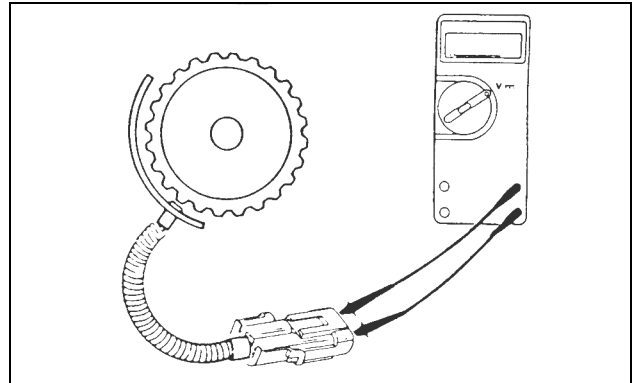

FIG. 1.1.41
**Correction:** Disconnect Weather pack connector from Jacobs control module. Measure the resistance between the two wires from the tach sender (Fig. 1.1.41). An acceptable reading will be from 50 to 300 ohms. The Motorola 7EP2033 or Volvo/White 13603-0013 will read between 245-255 ohms. Readings outside this range indicate a short circuit or broken wires.
**Correction:** With engine running, measure AC voltage signal between 500-800 RPM and record reading (Fig. 1.1.41). Above 1000 RPM, the VAC should be greater. If it is not, replace the sending unit.